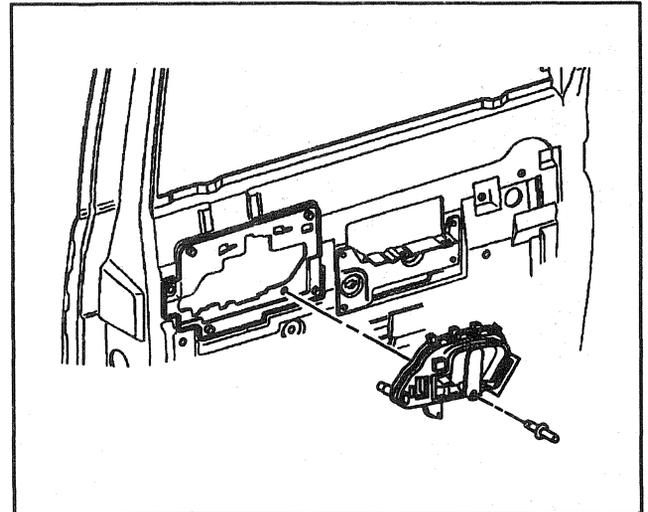

Figure 66—Rear Door Inner Handle Assembly
↔ Remove or Disconnect (Figures 66 and 67)
3. Inside door handle assembly (Figure 66).
→ Install or Connect (Figures 66 and 67)